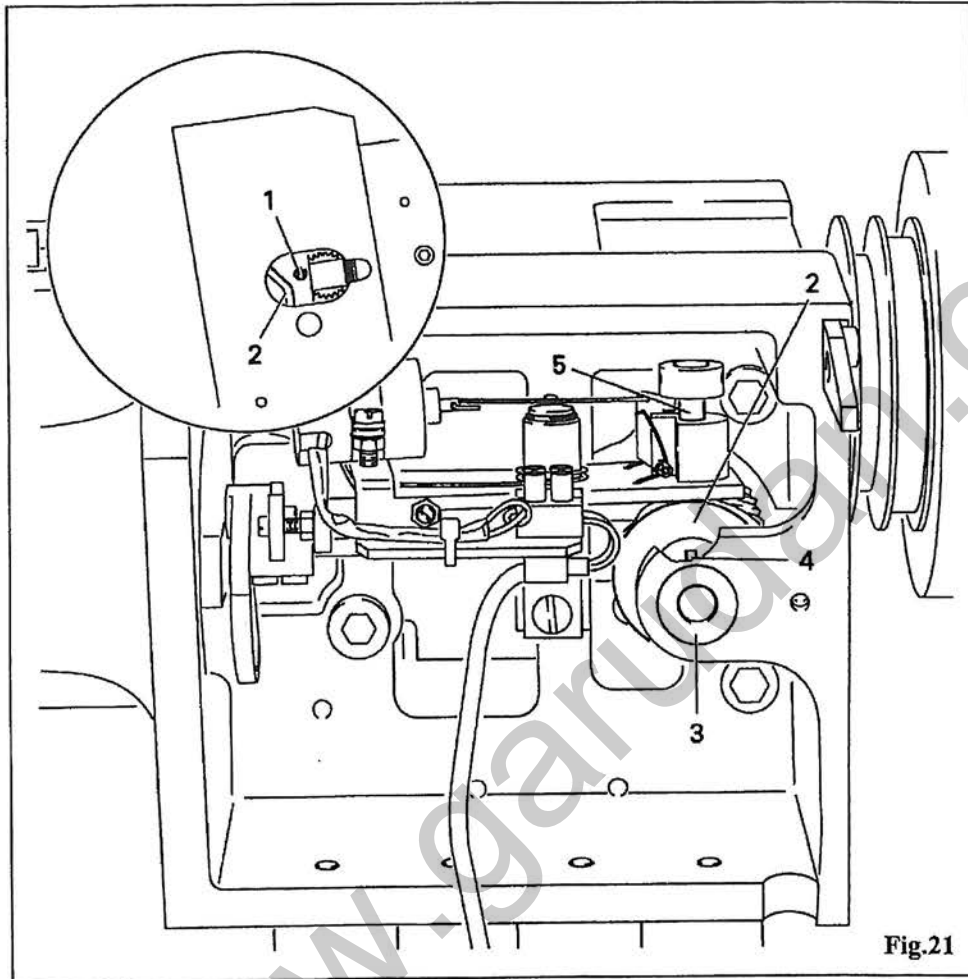

Fig.21
(Fig.21)
(1) Control cam (preliminary adjustment) (Fig.21)